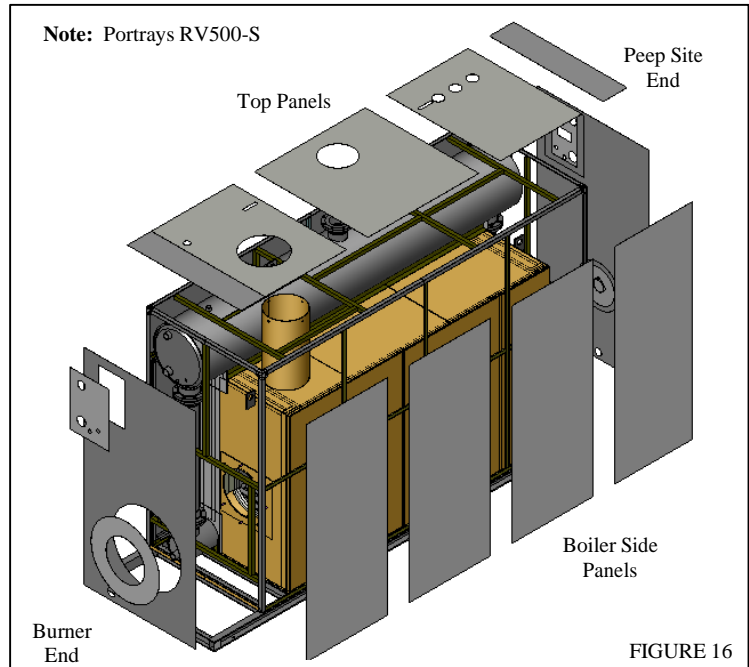

FIGURE 16
**5.4** Install jacket panels. See figure 16 and drawing B21235. **NOTE:** Panel configuration varies, depending on boiler type. Panel location is noted on the backside of panels. Primed side goes to the inside. Drill pilot holes with a #26 drill. Attach the panels to the angle iron frame with #8 x 1/2 long self-tapping sheet metal screws. Screws should be spaced about 8" apart. Be sure to measure and mark location to avoid missing framework with screw holes.